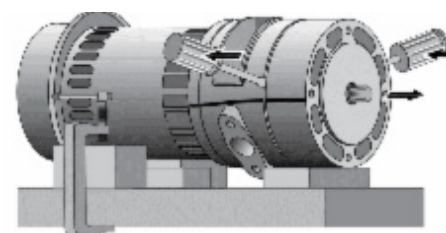

Figure 20
10. Carefully tap a small screwdriver or thin bladed chisel in between the intermediate volute and the pump adapter in two or three places around the pump to separate the castings (Figure 20). Do not mar the sealing surfaces; do not break pieces out to the adapter or volute - the castings are easily damaged.